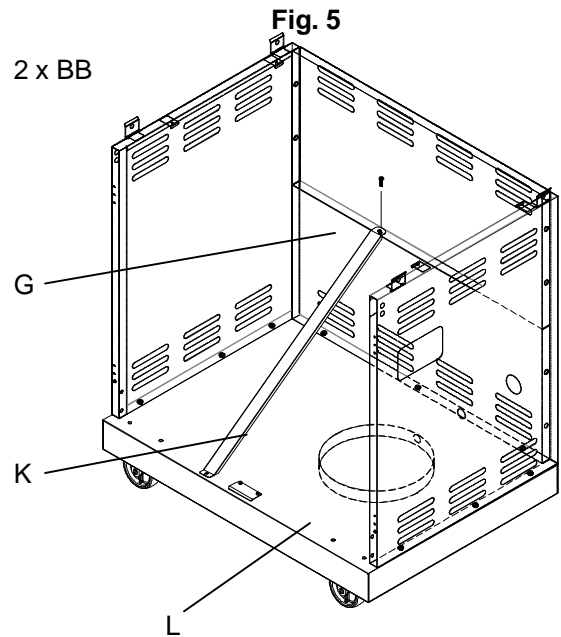

Fig.5
Use two 5/32-in. x 10-mm truss head screws (BB) to attach Diagonal Bar Barrier (K) to the bottom panel (L) and upside of the Back panel, bottom (G). As shown in Fig. 5.